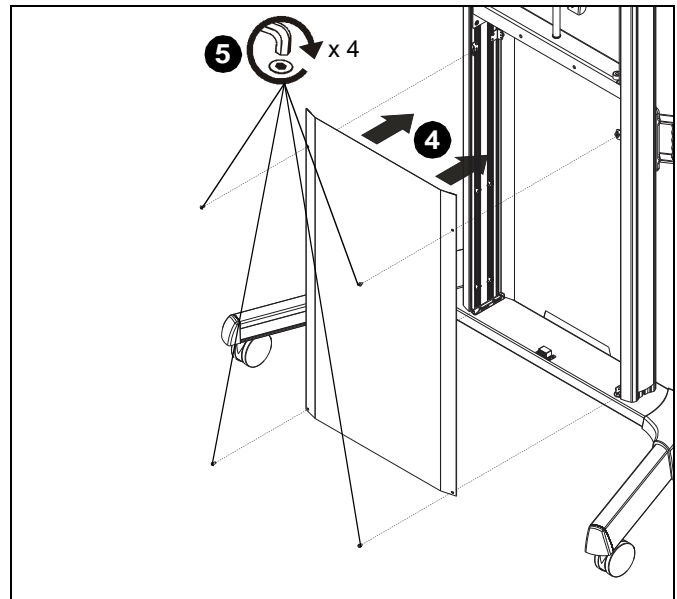

Figure 14
4. Install front cover back on cart using magnets. (See Figure 14)
5. (Optional) Re-install four button head cap screws if additional security is desired. (See Figure 14)